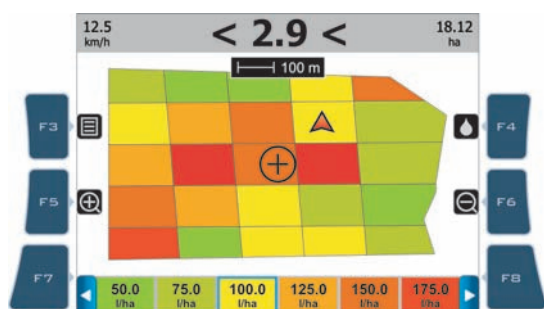

Fig. 215
- Operate the spraying: Bravo 400 will apply the suitable spray rate to the treated area according to the position detected by the GPS receiver (Fig. 215).